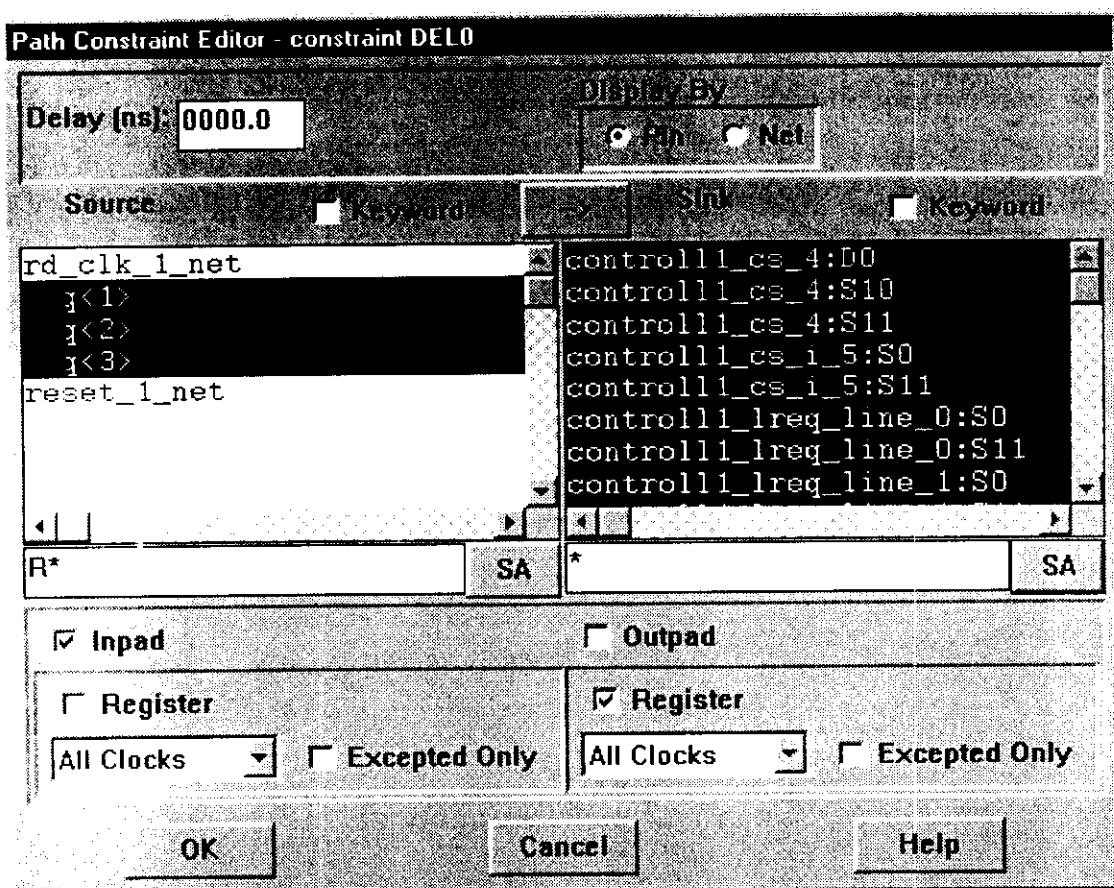

Figure 13. The Path Constraint Editor
3. In the filter box on the Source side, set the filter to R* and hit return	Only the source pins that start with "R" will be displayed as shown in Figure 13.
| 4. Use the Shift key to select the req<1> , req<2> and req<3> pins. | All three pins should be highlighted as shown in Figure 13.